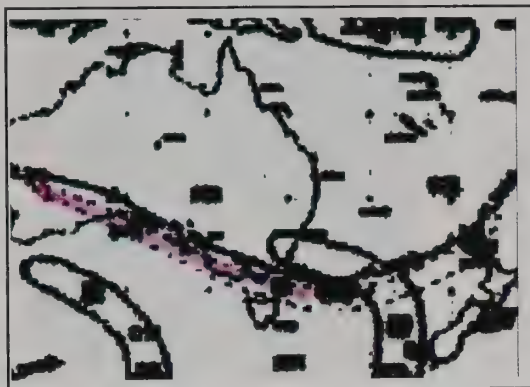

Figure 5. A duct in a jet-wind stream north of Tasmania.
**Mode 6:** Ducts traveling in jet-stream winds at a height of 10 km. The spring is the best time of year for these, although they can come during the winter, as the one shown in figure 5. Some years the northern jet-stream winds do not come as far south as us. They are narrow and provide very strong propagation.
Figure 5 was recorded on August 14, 1996, and it shows the duct in the color mauve at a height of 10 km. This gave propagation from Auckland to Brisbane on 6 meters, when it became centered over both cities. The map was by weather fax, and it shows two cloud banks at the leading edge of two cold fronts. During spring, very strong jet-stream winds can occur between 20 degrees south (or north) and 45 degrees south (or north). These have produced incredible openings as high as 1296 MHz here, with extremely strong signals. I have seen them last up to three days, and even hand-held transceivers have been able to work over 2250 km! If you have access to this information, you can see them coming for several days. They are very narrow and cannot be accessed from outside the width of the duct.